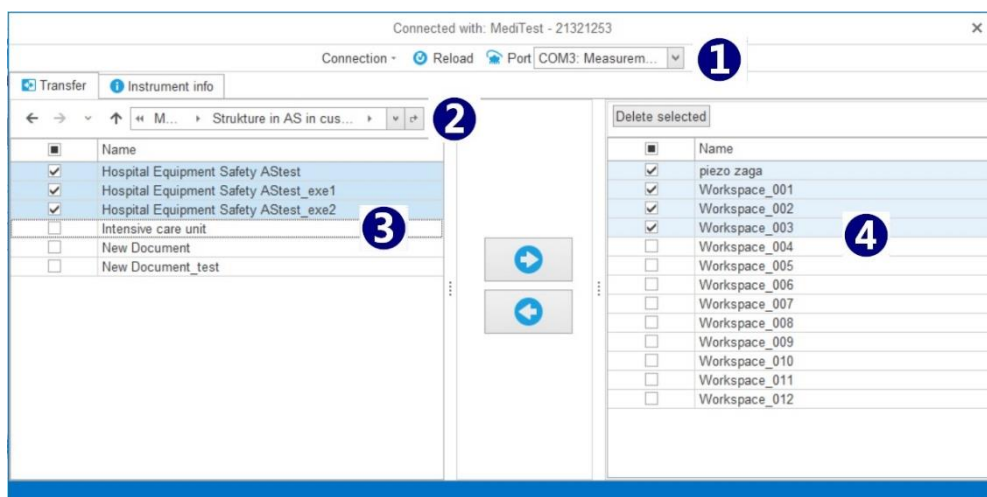

Figure 8.4: Transfer tab menu of the Connect window
- **Connect:** Open the menu window (**Figure 8.4**) for managing the transfers of multiple data structure files between the connected instrument and the PC. The window contains Transfer tab and Instrument info tabs.